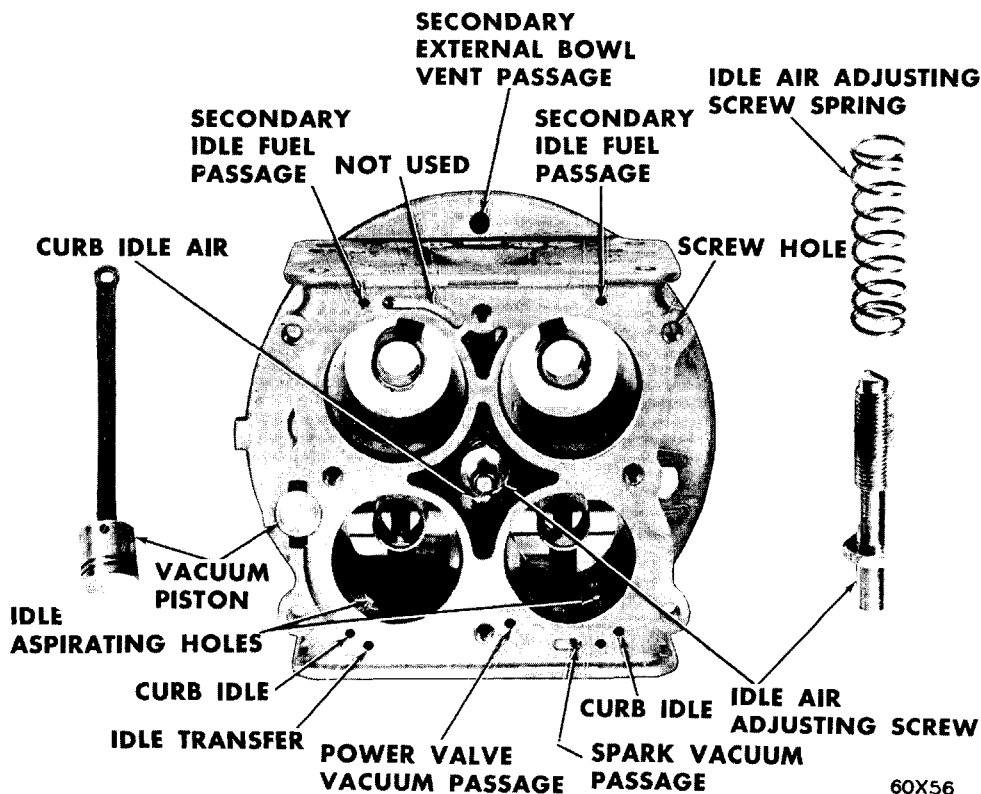

Fig. 13—Main Body Identification (Bottom View)
- (22) Remove the choke vacuum piston from the main body. (See Figure 13).